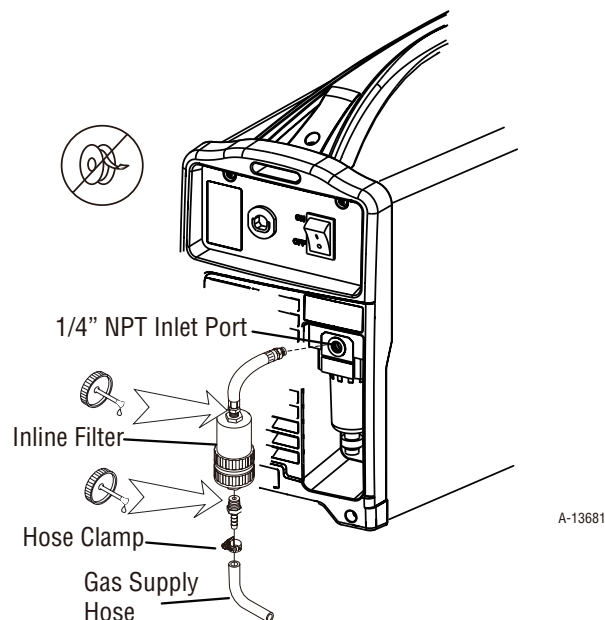

Figure 3-3: Connecting Inline Filter
3. Connect the air line to the filter using the 1/4" NPT. The illustration of Figure 3-3 shows typical fittings as an example.